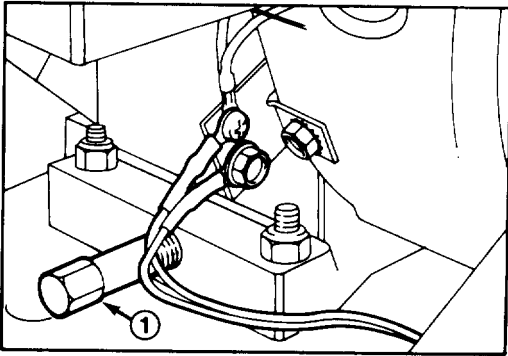

Figure 18
3. Clean area around oil drain cap. Next, slide oil drain pan below drain extension; then remove oil drain cap (Fig. 18).